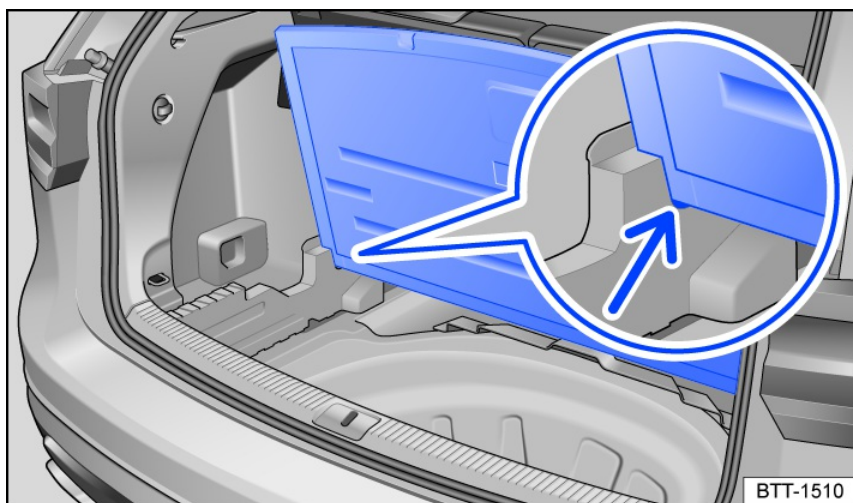

Fig. 159 In the luggage compartment: securing the luggage compartment floor in place.
3. To secure in place, guide the luggage compartment floor in the mounts fig. 159 (arrow) on the sides of the luggage compartment floor.